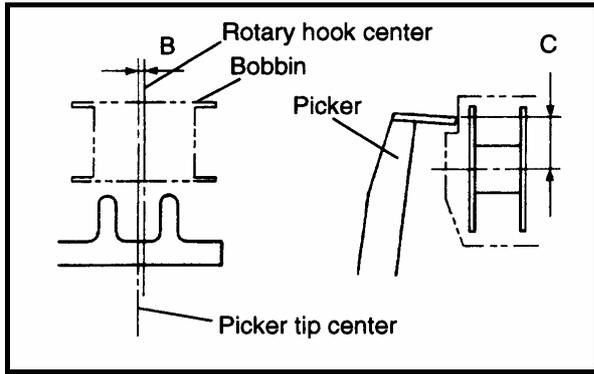

FIG.2
- (3) Clearance B between the picker tip center and the rotary hook center must not exceed 1mm. (Fig.2)
- (4) The picker height C must be 7 to 9mm from the center of the rotary hook.
the thread wiper hook tip must be 11 mm or more during operation. (Fig.2)
- (3) Distance B from the right end of the thread wiper hook to the needle center must be 1 to 3mm. (Fig.2)